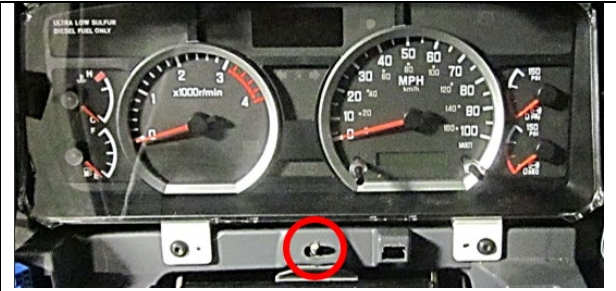

Figure 15
12. Remove the one (1) nut from the IP. (See Figure 15.)